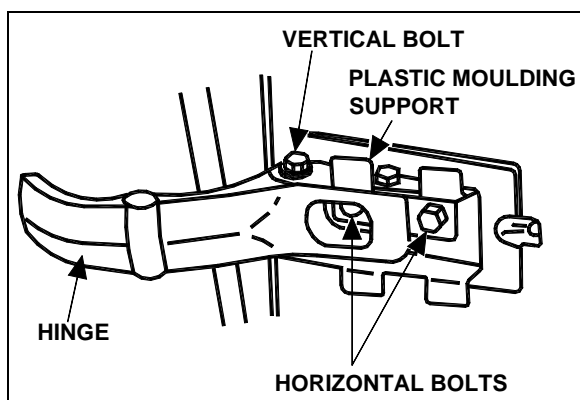

FIGURE 20: ENTRANCE DOOR (VIP)
5. To adjust the male dovetail on L.H. side of the door, remove the two screws and loosen the two bolts. Slide the male dovetail toward the interior and loosely tighten the two bolts. Close the door slowly but firmly, then slowly open it and tighten the two bolts. Attach dovetail to the door with screws. See figure 20.